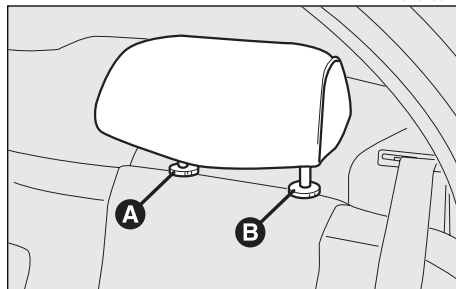

fig. 27
- press both buttons (**A** and **B**-fig. 27) and remove the headrests.